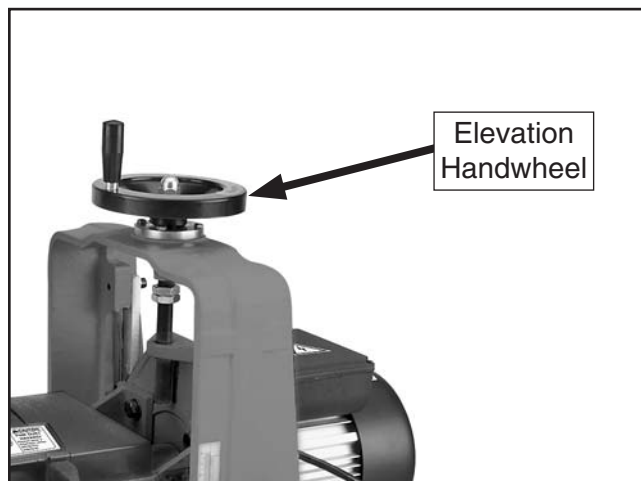

Figure 12. Handle installed onto the elevation handwheel.
9. Thread the handle into the elevation handwheel, as shown in **Figure 12**.